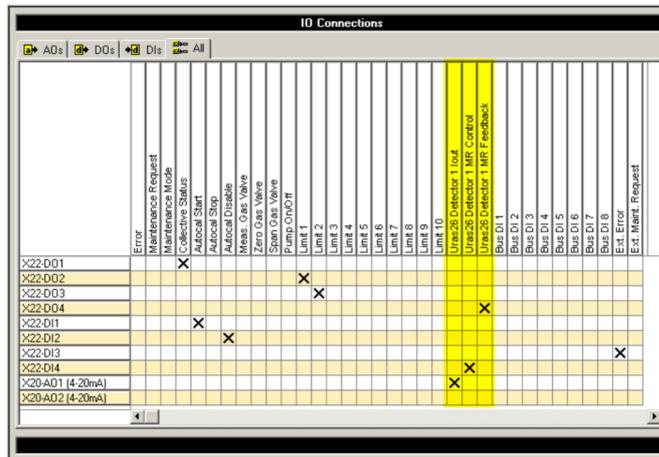

Figure 35: 'IO Connections' menu
The automatic measuring range switchover 'Autorange' can only be configured if an analog output is assigned to the detector. The externally controlled measuring range switchover 'DI Control' can only be configured if an analog output and a digital input are assigned to the detector, see **Figure 35** on page 67.
- The externally controlled measuring range switchover ('DI Control') can only be configured if an analog output and a digital input are assigned to the detector, see **Figure 35** on page 67.